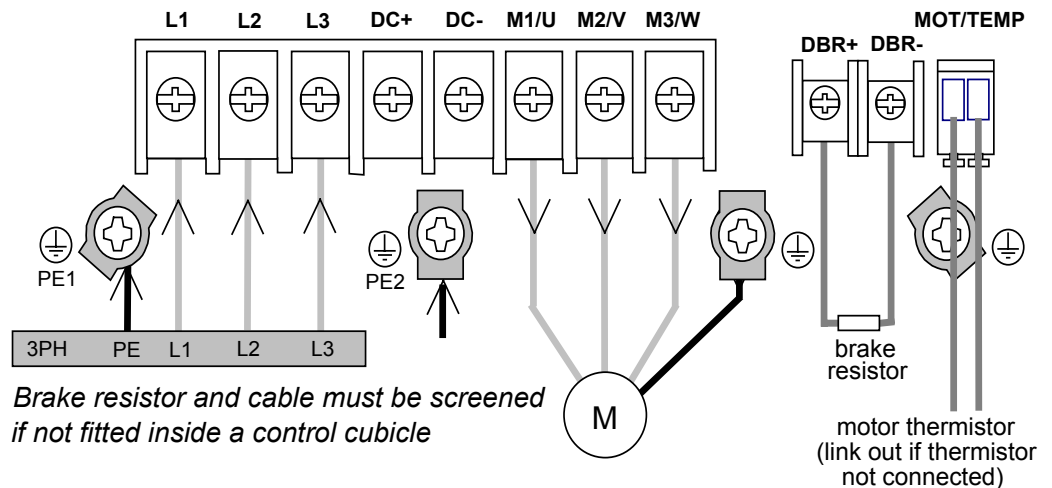

Figure 3-8 Earth and Power Wiring Connections for Three Phase Input
3. Feed the power supply and motor cables into the inverter through the metal gland plate using the correct cable entries, and connect to the power terminals. Tighten the terminals to a torque of 1.0Nm (9 in.lb). Refer to Figure 3-8 above.